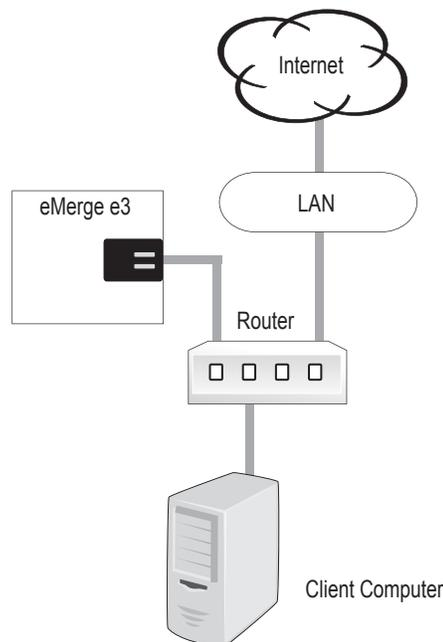

Figure 7.4. Connecting the Essential to a LAN
- Connect to the local area network (LAN) as shown in Figure 7.4.